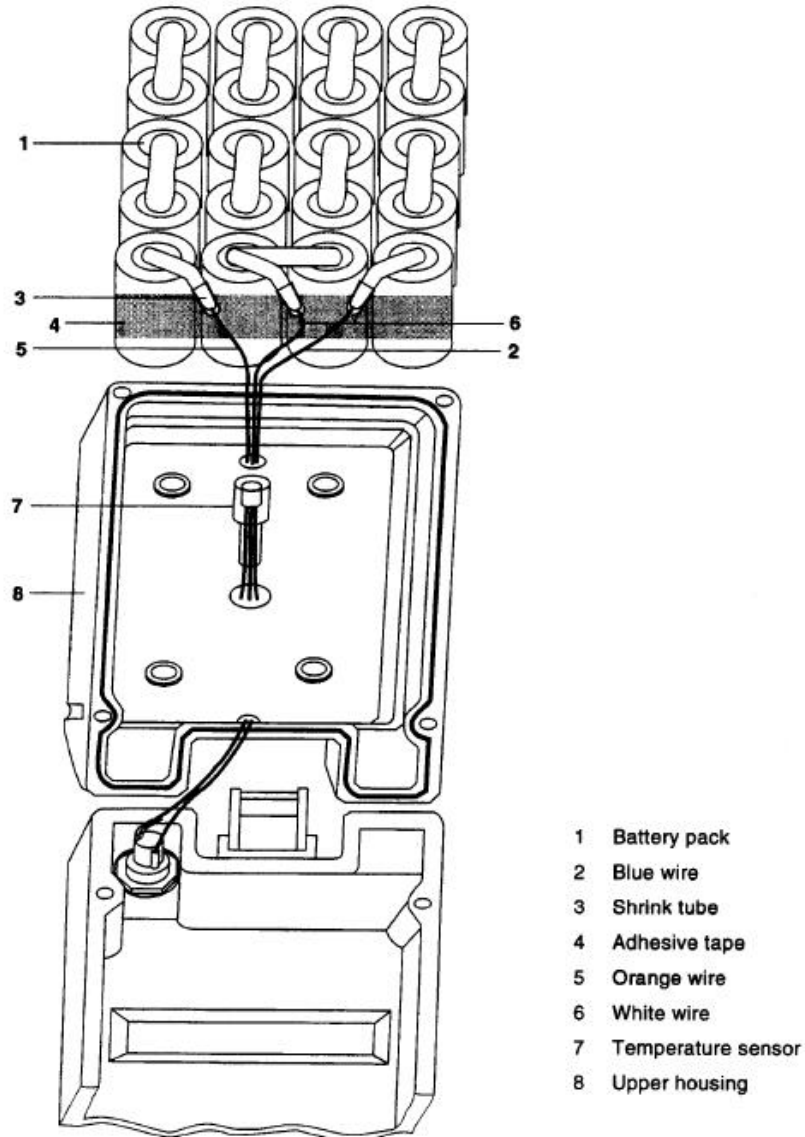

Figure 3-7. Battery Pack
- Individually position one each of the four contacts (10), insulating disks (9), O-Rings (8), terminals (7), insulating sleeves (3), and washers (2) in place.
- Apply locktite-sealing compound to the threads of one of the four screws (1) and insert and tighten into contact (10) with a torque of 35.4 oz-in (25 Ncm).
- Pull temperature sensor (6) through hole (5) of plastic shell (4) correctly aligned in housing.
- Install battery pack according to paragraph 3. (Figure 3-7)
- Install upper housing according to paragraph 3. (Figure 3-7)
- Remove upper housing according to paragraph 3. (Figure 3-7)
- Remove battery pack according to paragraph 3. (Figure 3-7)
- Raise plastic shell (4) and pull temperature sensor (6) back through hole (5).
- Position plastic shell (4) as far vertical as possible.
- Unscrew and remove three screws (1) and three washers (2).
- Cut and remove two cable ties (7).
- Unsolder and remove thin blue wire from contact (6) and thin red wire, from contact (8).
- Remove temperature sensor (5).
- Insert and position temperature sensor (5) into plastic shell (3).